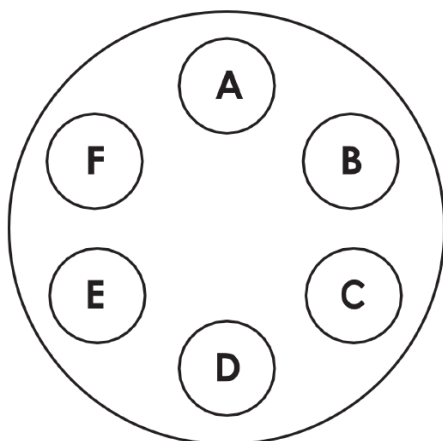

Figure 5: Sample layout for Sudan III test. The larger circle is the filter paper and the smaller labeled circles are for each of the 6 test samples.
- Using a pencil and a penny, make 6 equally spaced circles each about ½ inch from the edge as shown in **Figure 5**.